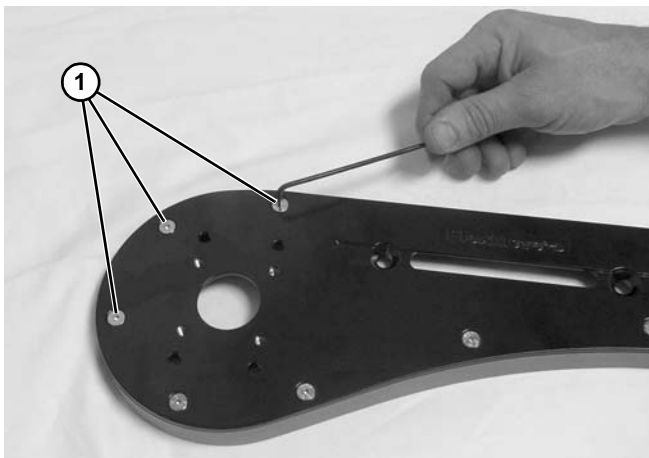

Figure 128
6. Remove three socket head screws (Figure 128, item 1).